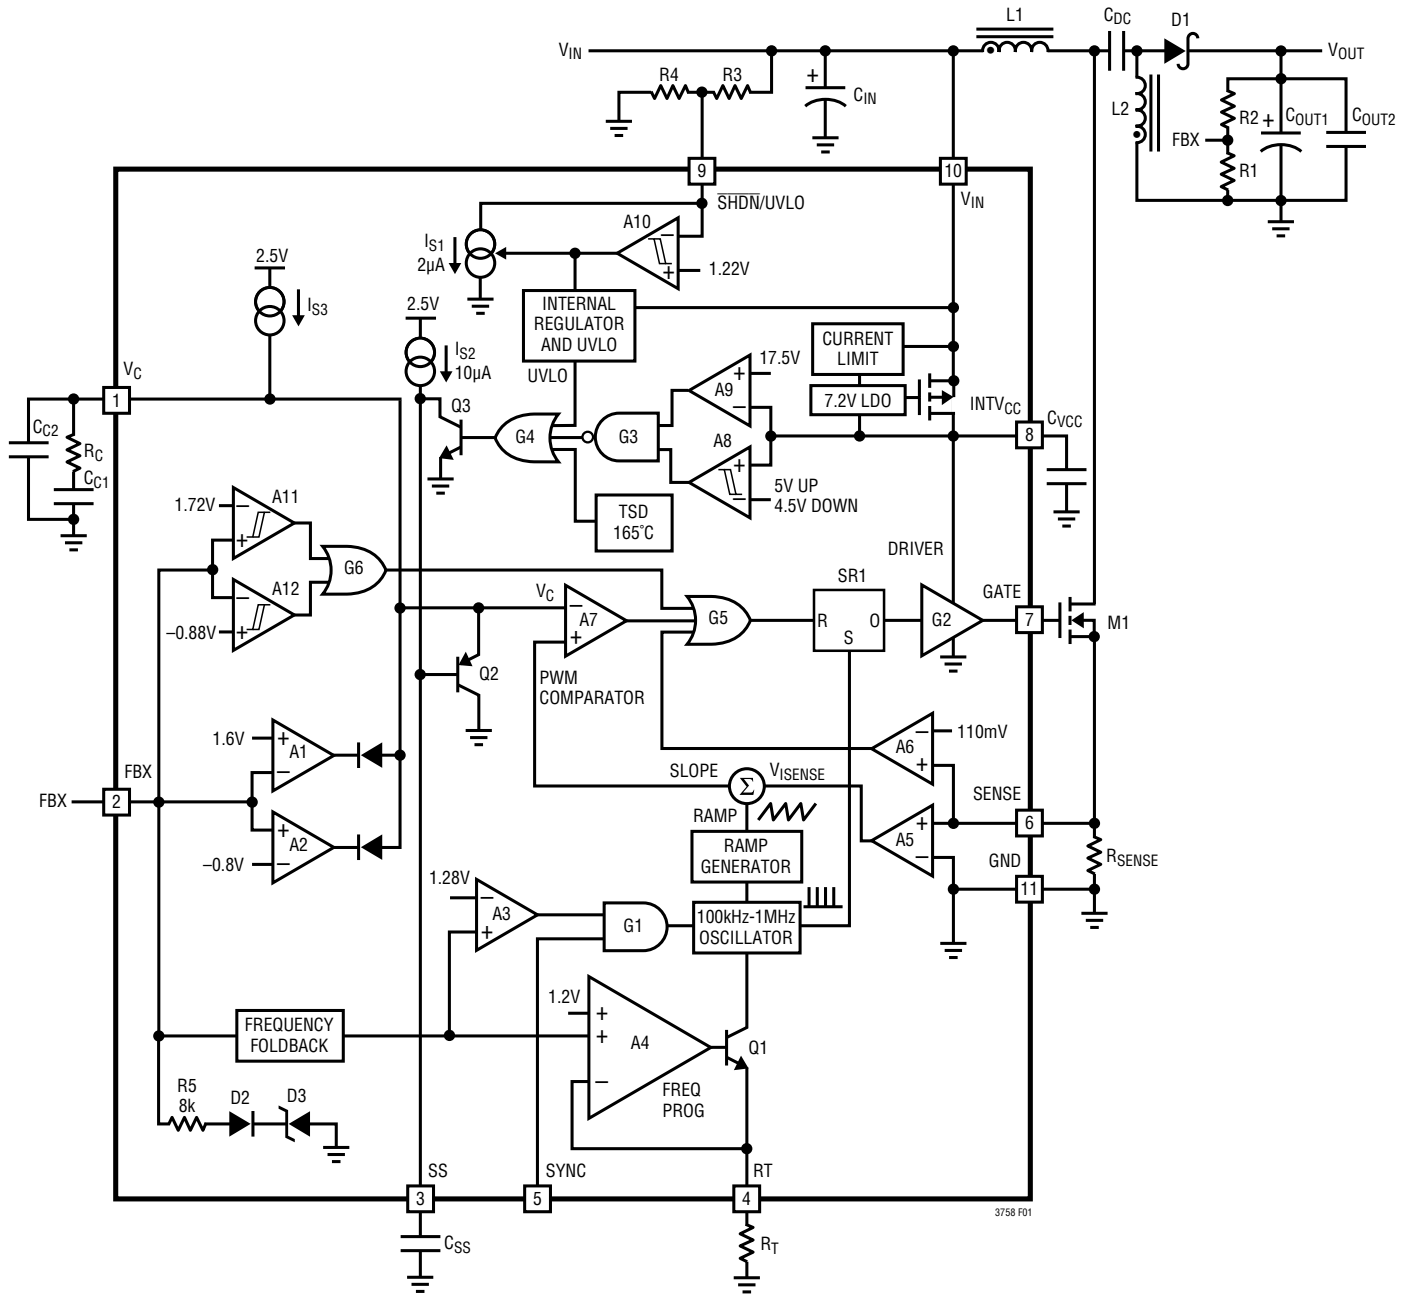

Figure 1. LT3758 Block Diagram Working as a SEPIC Converter
The LT3758 uses a fixed frequency, current mode control scheme to provide excellent line and load regulation. Operation can be best understood by referring to the Block Diagram in Figure 1.
The LT3758 is capable of generating either positive or negative output voltage with a single FBX pin. It can be configured as a boost, flyback or SEPIC converter to generate positive output voltage, or as an inverting converter to generate negative output voltage. When configured as a SEPIC converter, as shown in Figure 1, the FBX pin is pulled up to the internal bias voltage of 1.6V by a voltage divider (R1 and R2) connected from V_{OUT} to GND. Comparator A2 becomes inactive and comparator A1 performs the inverting amplification from FBX to V_C . When the LT3758 is in an inverting configuration, the FBX pin is pulled down to $-0.8V$ by a voltage divider connected from V_{OUT} to GND. Comparator A1 becomes inactive and comparator A2 performs the noninverting amplification from FBX to V_C .
The purpose of this current is to allow the user to program the rising hysteresis. The Block Diagram of the comparator and the external resistors is shown in Figure 1. The typical falling threshold voltage and rising threshold voltage can be calculated by the following equations:
An internal, low dropout (LDO) voltage regulator produces the 7.2V INTV_{CC} supply which powers the gate driver, as shown in Figure 1. The LT3758 contains an undervoltage lockout comparator A8 and an overvoltage lockout comparator A9 for the INTV_{CC} supply. The INTV_{CC} undervoltage (UV) threshold is 4.5V (typical), with 0.5V hysteresis, to ensure that the MOSFETs have sufficient gate drive voltage before turning on. The logic circuitry within the LT3758 is also powered from the internal INTV_{CC} supply.
The choice of operating frequency may be determined by on-chip power dissipation, otherwise it is a trade-off between efficiency and component size. Low frequency operation improves efficiency by reducing gate drive current and MOSFET and diode switching losses. However, lower frequency operation requires a physically larger inductor. Switching frequency also has implications for loop compensation. The LT3758 uses a constant-frequency architecture that can be programmed over a 100kHz to 1000kHz range with a single external resistor from the RT pin to ground, as shown in Figure 1. The RT pin must have an external resistor to GND for proper operation of the LT3758. A table for selecting the value of R_T for a given operating frequency is shown in Table 1.
The output voltage V_{OUT} is set by a resistor divider, as shown in Figure 1. The positive and negative V_{OUT} are set by the following equations:
In the applications where V_{OUT} is pulled up by an external positive power supply, the FBX pin is also pulled up through the R2 and R1 network. Make sure the FBX does not exceed its absolute maximum rating (6V). The R5, D2, and D3 in Figure 1 provide a resistive clamp in the positive direction. To ensure FBX is lower than 6V, choose sufficiently large R1 and R2 to meet the following condition:
The LT3758 addresses this mechanism with the SS pin. As shown in Figure 1, the SS pin reduces the power MOSFET current by pulling down the V_C pin through Q2. In this way the SS allows the output capacitor to charge gradually toward its final value while limiting the start-up peak currents. The typical start-up waveforms are shown in the Typical Performance Characteristics section. The inductor current I_L slewing rate is limited by the soft-start function.
load transient response, when compared to the LT3758. New internal circuits ensure that the transient from not switching to switching at high current can be made in a few cycles. The optimum values depend on the converter topology, the component values and the operating conditions (including the input voltage, load current, etc.). To compensate the feedback loop of the LT3758/LT3758A, a series resistor-capacitor network is usually connected from the V_C pin to GND. Figure 1 shows the typical V_C compensation network. For most applications, the capacitor should be in the range of 470pF to 22nF, and the resistor should be in the range of 5k to 50k. A small capacitor is often connected in parallel with the RC compensation network to attenuate the V_C voltage ripple induced from the output voltage ripple through the internal error amplifier. The parallel capacitor usually ranges in value from 10pF to 100pF. A practical approach to design the compensation network is to start with one of the circuits in this data sheet that is similar to your application, and tune the compensation network to optimize the performance. Stability should then be checked across all operating conditions, including load current, input voltage and temperature.